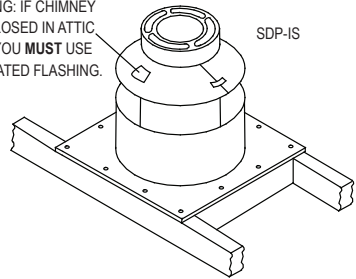

Figure 12
8. Install Attic Insulation Shield: Install the Attic Insulation Shield where the chimney passes into an attic. Its purpose is to prevent debris and insulation from getting too close to the chimney. **(Figure 12)**. An installed Attic Insulation Shield is 14 inches high. In attic areas where this shield won't fit, a Square Support Box, (which is available in heights up to 36 inches), can be used instead of an Attic Insulation Shield, provided it reaches through the roof; **refer to the Roof Supported Installation section on page 14**. If the chimney is fully enclosed through the attic, an Insulation Shield is not required, however, again, Ventilated Flashing must be used.
d. Nail the Insulation Shield to the top of the framed opening with at least two 8-penny nails per side. (**Figure 12**).